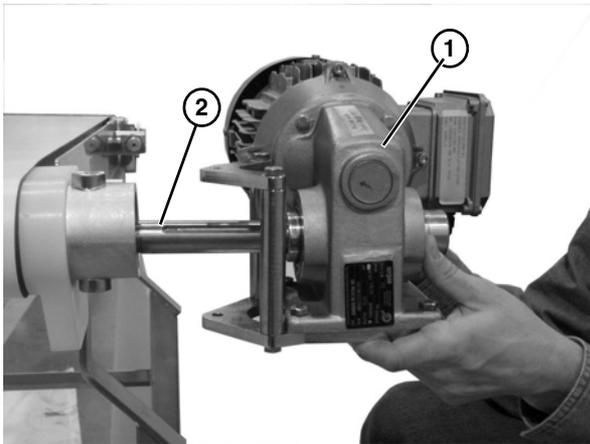

Figure 4
2. Slide the gearmotor assembly (Figure 4, item 1) onto the drive spindle (Figure 4, item 2).